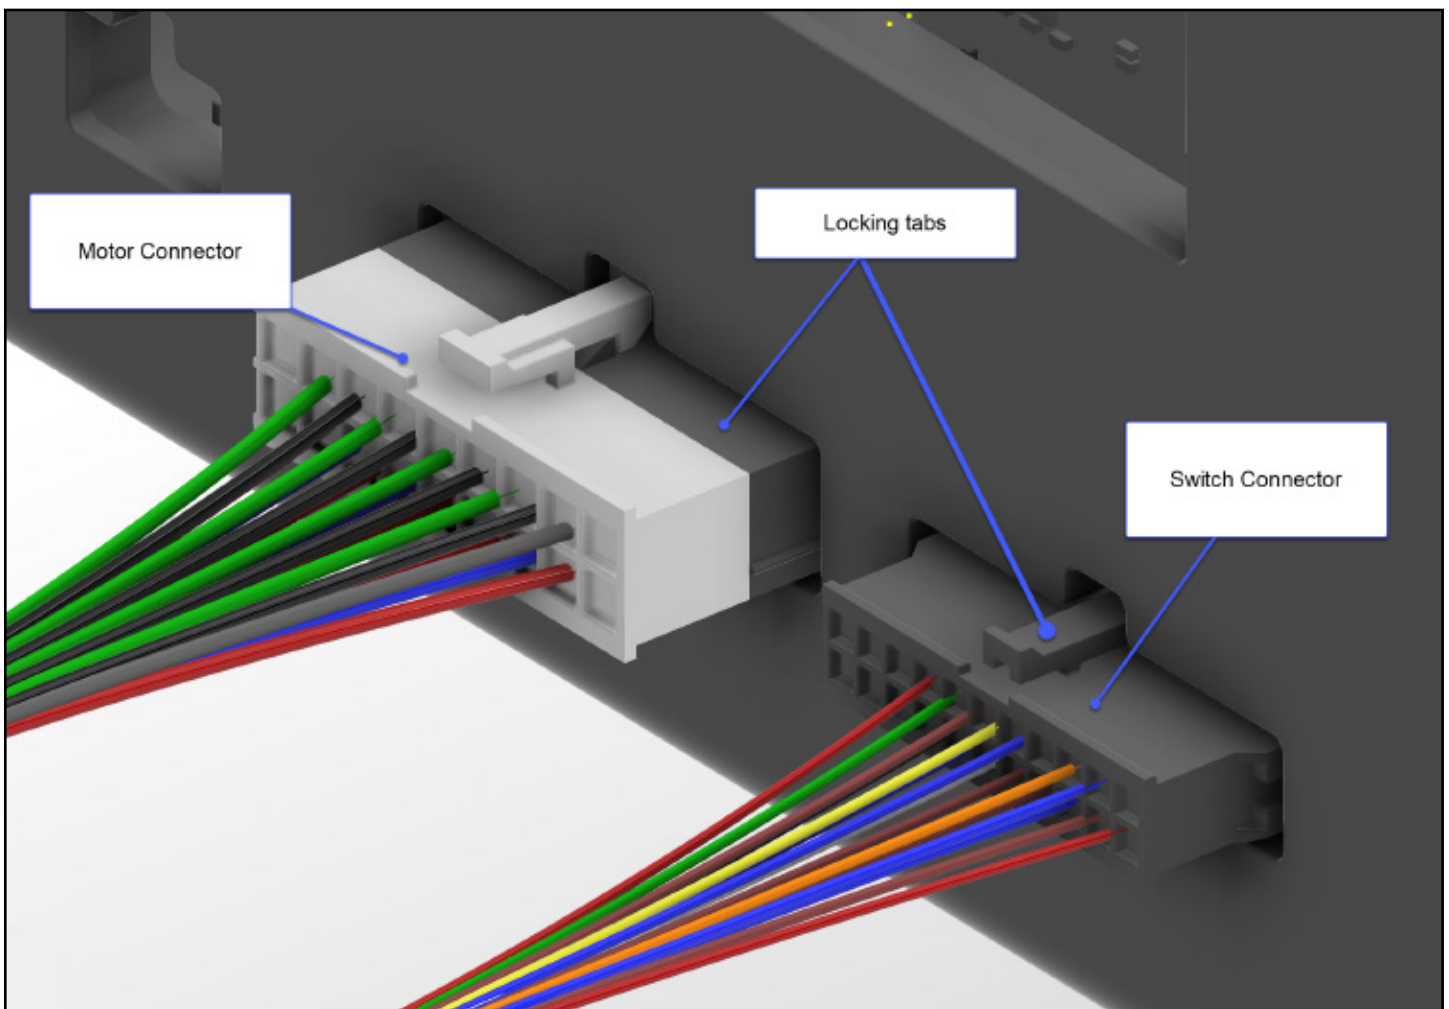

Figure 6-1
2. Plug the 18-pin motor wiring bundle connector into the larger 18-pin “MOTORS” port on the controller. See **Fig. 6-1**.
3. Plug the 22-pin limit switch wiring bundle connector into the smaller 22-pin “SWITCHES” port on the controller. See **Fig. 6-1**.